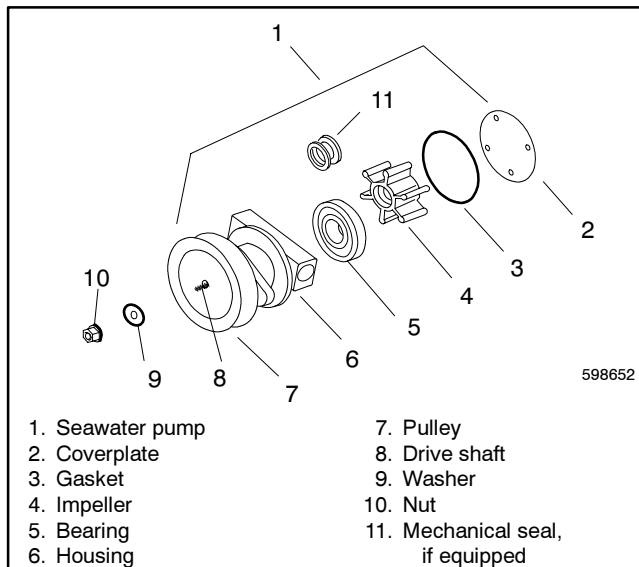

Figure 5-2 Seawater Pump, Typical
2. Remove the seawater pump coverplate. See Figure 5-2.